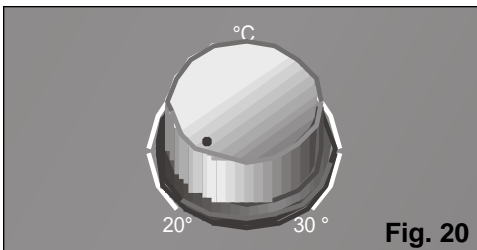

Fig. 20
- Set the thermostat to its minimum temperature setting, Fig. 20.